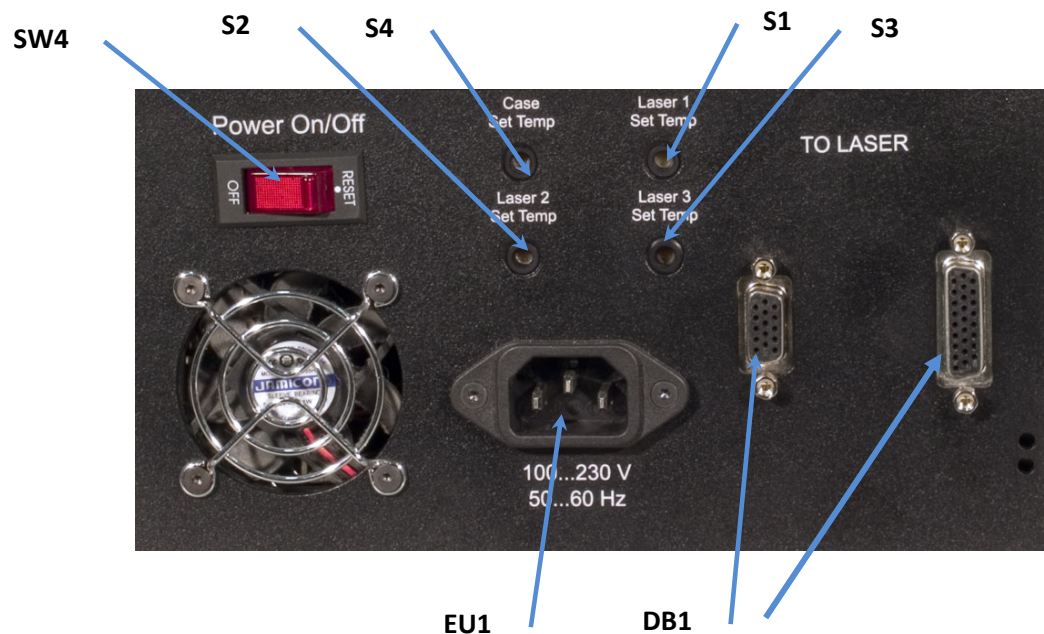

Fig. 2. Power supply rear panel.
LD3 – T1 - temperature indicator of the oscillator pump diode. It lights green at turning the switch **SW4** (fig. 2) – pump diode is thermally stabilized.
LD4 – T2 - temperature indicator of the amplifier pump diode 1. It lights green at turning the switch **SW4** (fig. 2) – pump diode is thermally stabilized.
LD5 – T3 - temperature indicator of the amplifier pump diode 2. It lights green at turning the switch **SW4** (fig. 2) – pump diode is thermally stabilized.
SW4 – the switch turns the thermal stabilization of the diodes and case on and off. Switch positions ON and OFF are shown in Fig.2.
3. Turn on the laser head and diodes thermal stabilization by turning the key (**SW4**) (Fig. 2). The “Temp” indicators **LD3**, **LD4**, **LD5** should light green. In approx. 60 min. the indicator “Temp” **LD1** should light green.